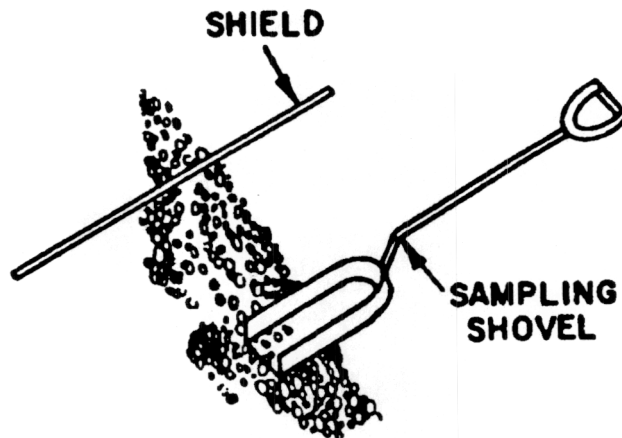

Figure 1 - Sampling Shovel
- a. Stockpiles and Barges - sampling shovel (Figure 1) and shield.